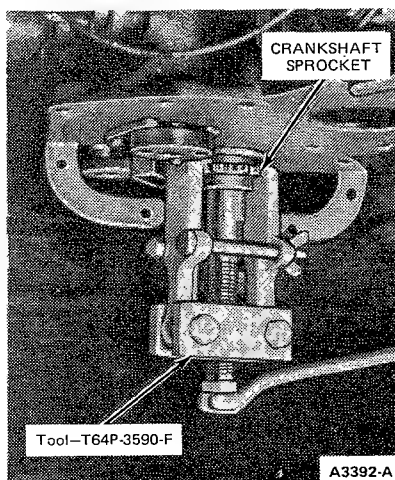

FIG. 31 Removing Crankshaft Sprocket
10. If crankshaft sprocket is to be removed, use tool No. T64P-3590-F (Figure 31).